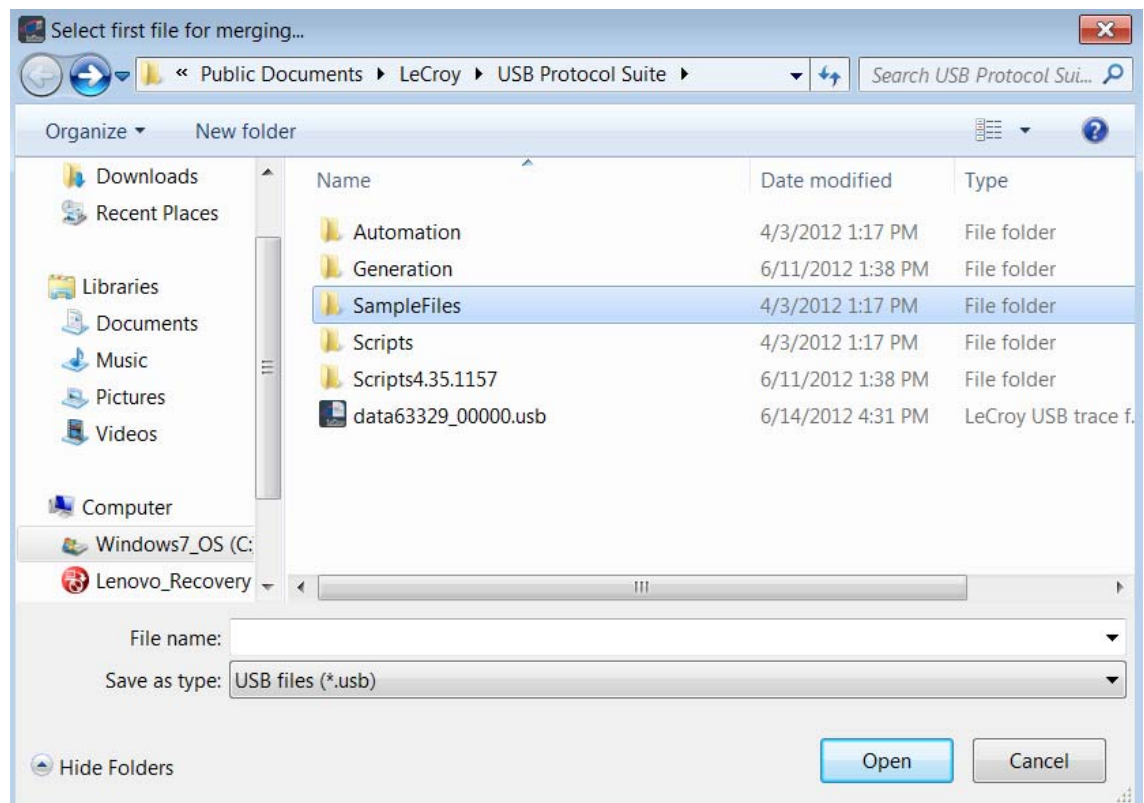

Figure 10.30: Select First File For merging Dialog
1. Select **File > Merge Trace Files** to display a dialog box asking for the first source file (see Figure 10.30 on page 312).